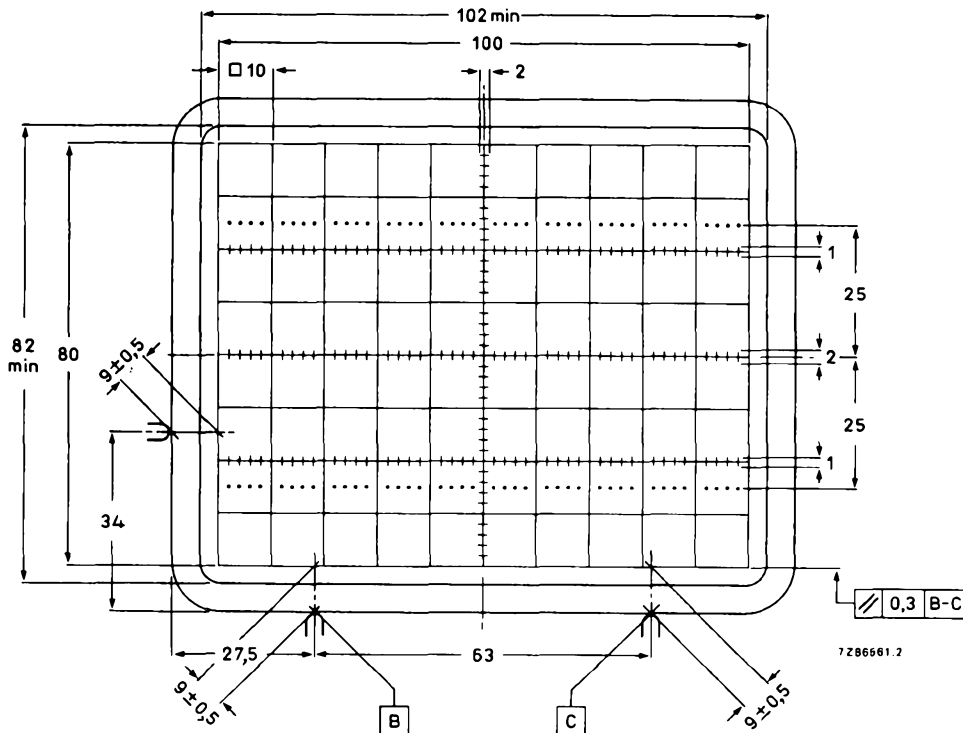

Fig. 4 Front view of tube with internal graticule, type 93.
The tube can be mounted in any position. It must not be supported by the socket and not by the base region alone. The reference points on adjoining edges of the faceplate (see Fig. 4) enable the tube to be mounted accurately in the front panel, thus providing optimum alignment of the internal graticule.
- (1) Dimensions of faceplate only. The complete assembly of faceplate and cone (frit seal included) will pass through an opening of 122 mm x 102 mm.
- (2) The coil is fixed to the envelope with resin and adhesive tape.
- (3) The length of the connecting leads of the rotation coil is min. 350 mm.
- (4) Reference points on faceplate for graticule alignment (see Fig. 4).
The internal graticule is aligned with the faceplate by using the faceplate reference points, see Fig. 4. See also note 1.